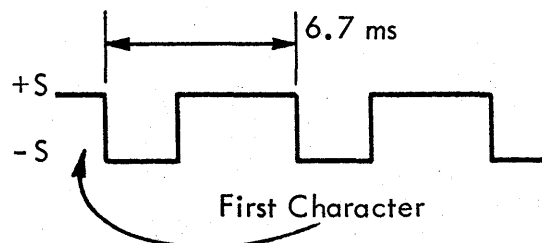

Figure 4-20. 1621 Clutch Adjustment
3. Sync oscilloscope on "+S clutch drive," A4-A14-D on 02.83.60.1. Observe "+S tape level 2," A4-A07-K on 02.83.50.1. The length of the first character read should be as close to 6.7 m sec as possible. See Figure 4-20.